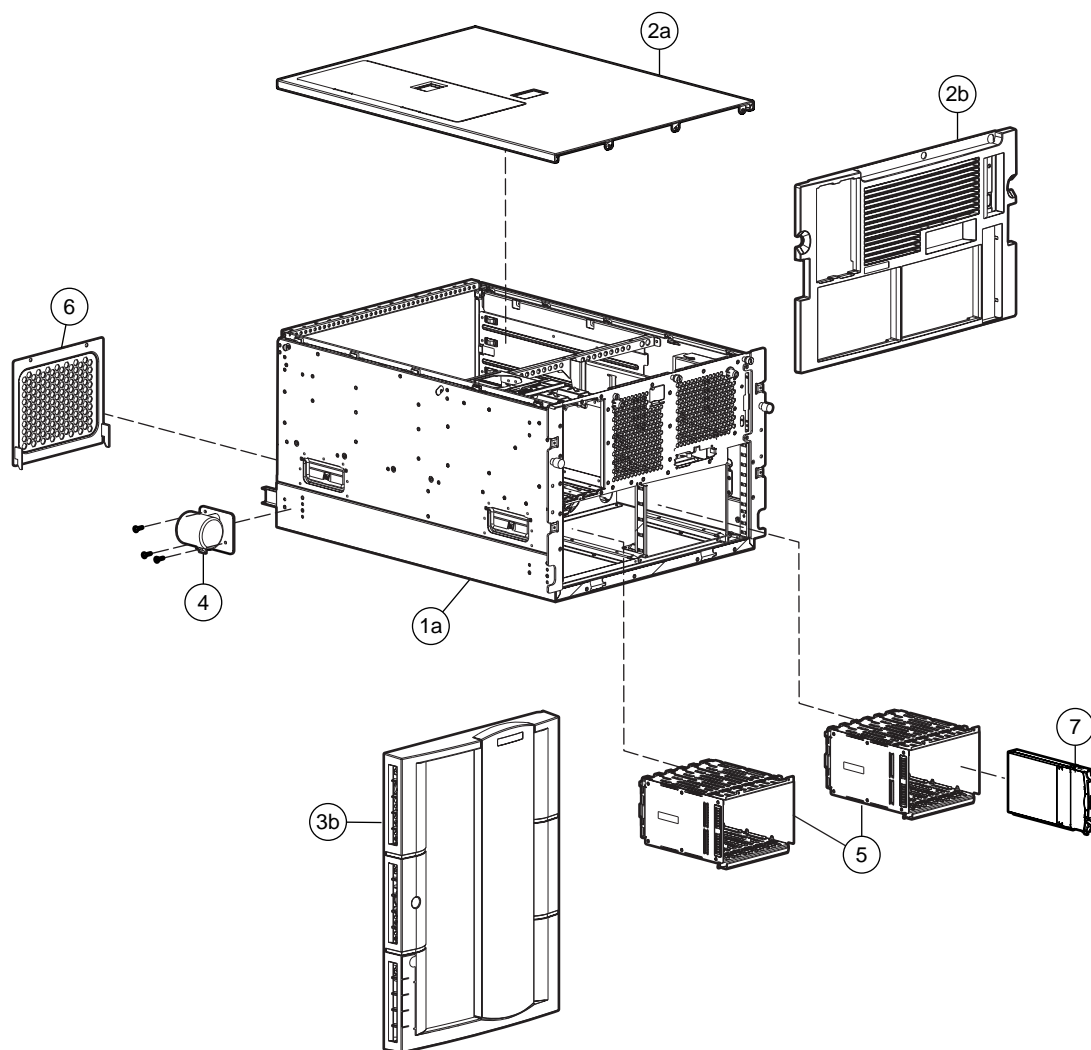

Figure 1-1. Exploded view of the ProLiant ML570 server chassis components (rack model)
8	System chassis (same as item 1, Figure 1-1)